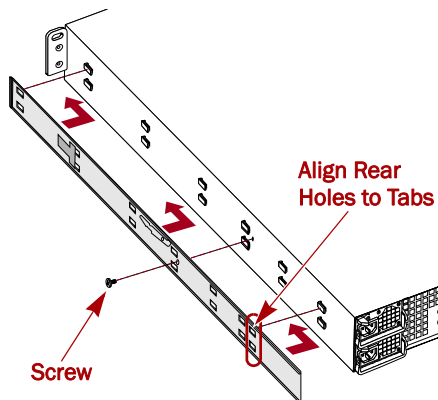

Figure 4. Attach Inner Rail Member to E2000
3. Attach the **right inner member** (Figure 4):